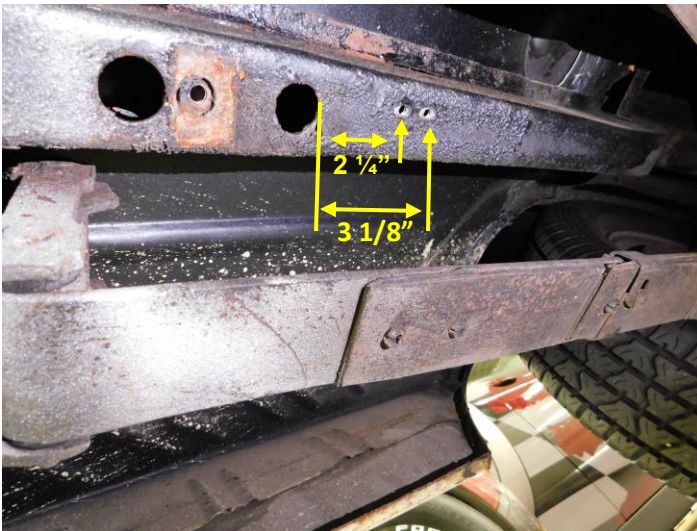
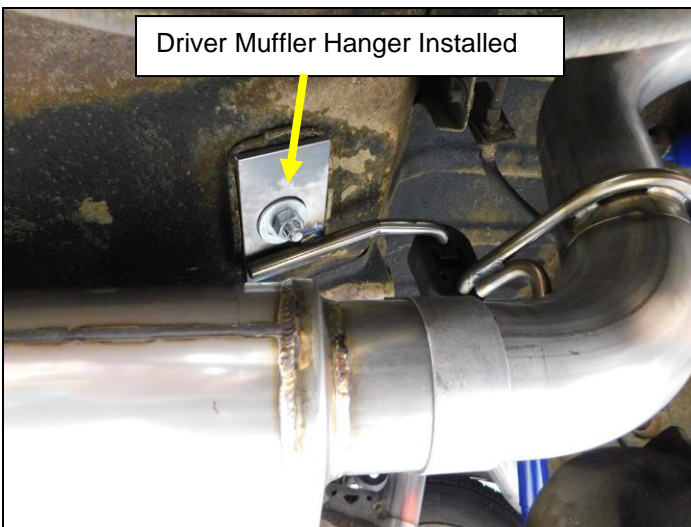

Figure 4
**Figure 6**
6. Measure from the front edge of the hole in the frame rail to 2-1/4" as shown in (Figure 4) below and mark the location. Measure 3-1/8" out from the leading edge of the hole and mark that location. Place the hanger bracket over the marks and align the bracket slots with the reference marks centered in the slot, the bracket faces up with the bolt head against the frame rail (Figure 6). Trace the slots in the bracket with a sharp awl or scribe onto the frame rail (Figure 5). Make sure the 1/2" bolt head is tight against the frame rail during this process.
10. Use the supplied 1/4-20 thread cutter bolts and anchor the tailpipe hanger bracket to the frame rail as shown in (Figures 6 & 7). An impact driver can be used to start the thread cutter, but **DO NOT** tighten the bolts with an impact driver. Apply Loctite® to the threads of the bolt and tighten by hand to approximately 20ft./lbs.